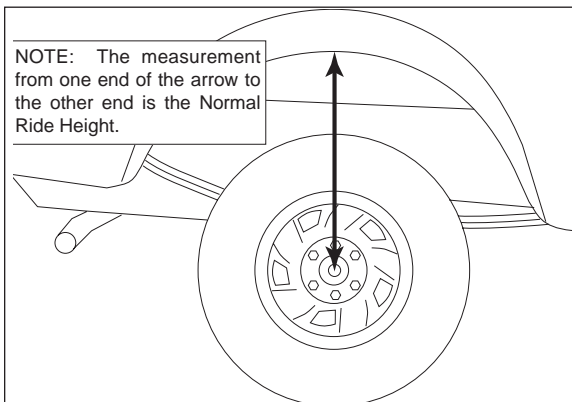

Figure 2
- Measure the distance between the center of the hub and the bottom edge of the wheel well (Figure 2). This is the Normal Ride Height. Enter the measurement below: